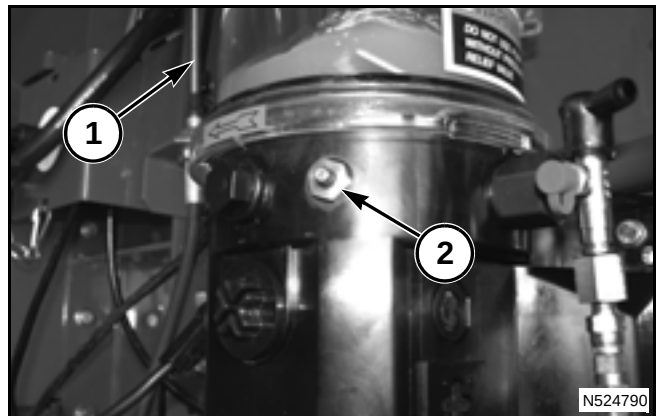

FIG. 69
FIG. 69: The grease reservoir (1) is located above the pump unit. When the pump unit is activated a stir paddle inside the reservoir prevents air pockets from developing in the grease and draws grease towards the pump unit.